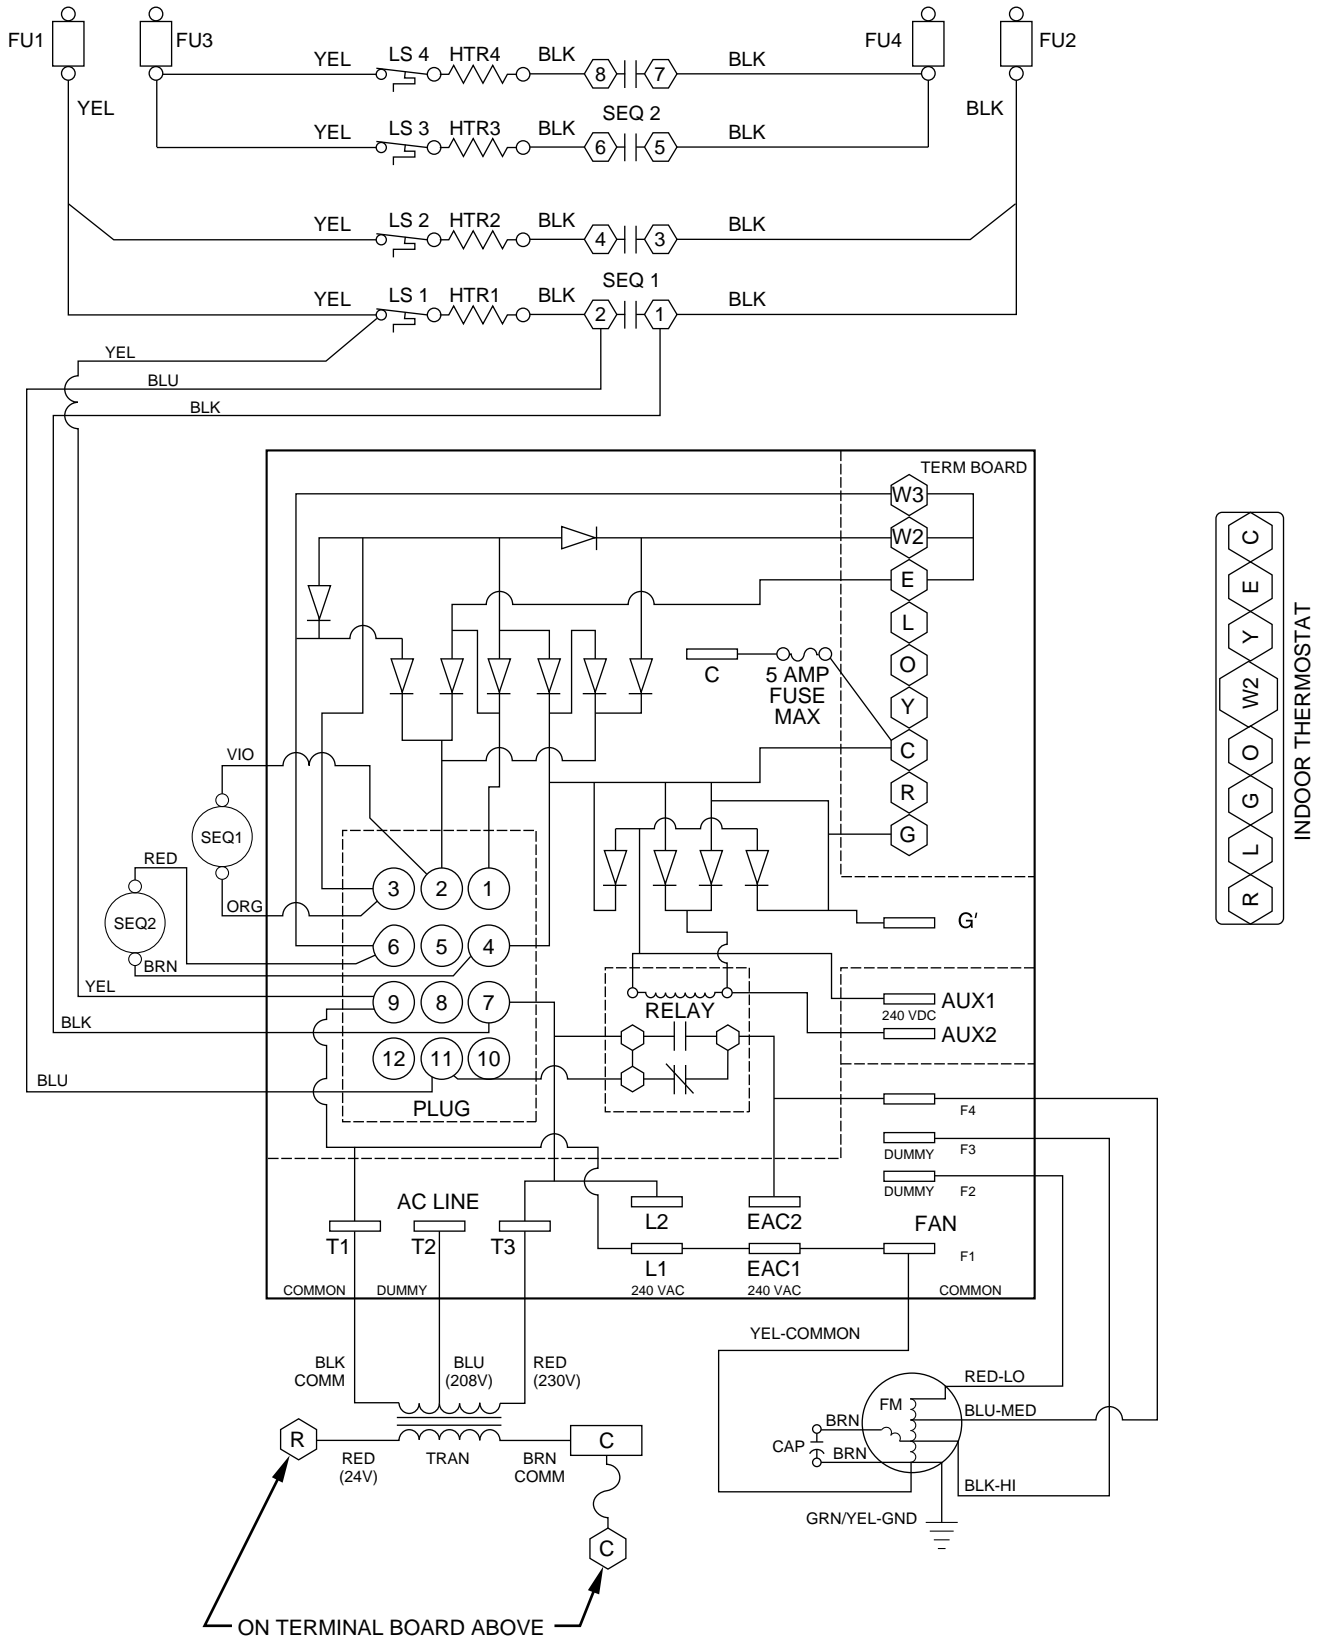

Fig. 12—Wiring Schematic
Use Fig. 12 wiring schematic as a guide in troubleshooting the PCB unless otherwise noted.
1. Check the low-voltage transformer leads, R and C. Make sure they are wired to the correct locations. Note that Fig. 12 shows wiring of the HK61GA001 board.
2. If any of the c diodes are blown, the fan is miswired to 1 of the low-voltage terminals, AUX1 or AUX2. Check to make sure that the fan leads are connected to the proper terminals as shown in Fig. 12. If the fan is connected properly, make sure that no other high voltage is applied to the AUX terminals.
2. Check the wiring of the sequencers as shown in Fig. 12. Make sure the low-voltage and the high-voltage wiring are connected to the proper sequencers.